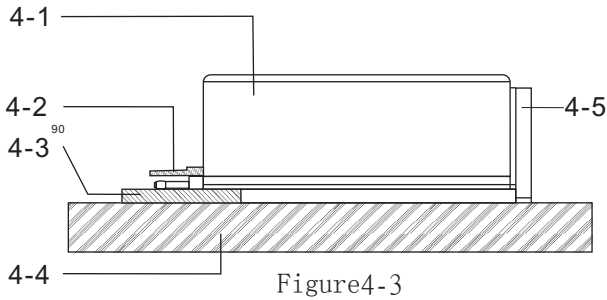

Figure4-3
- J. Brackets and sensors: When the surface of the measured part of the object is smaller than the bottom surface of the instrument, the sensor jacket and bracket can be used to assist support for correct measurement. (As shown in Figure 4-3)